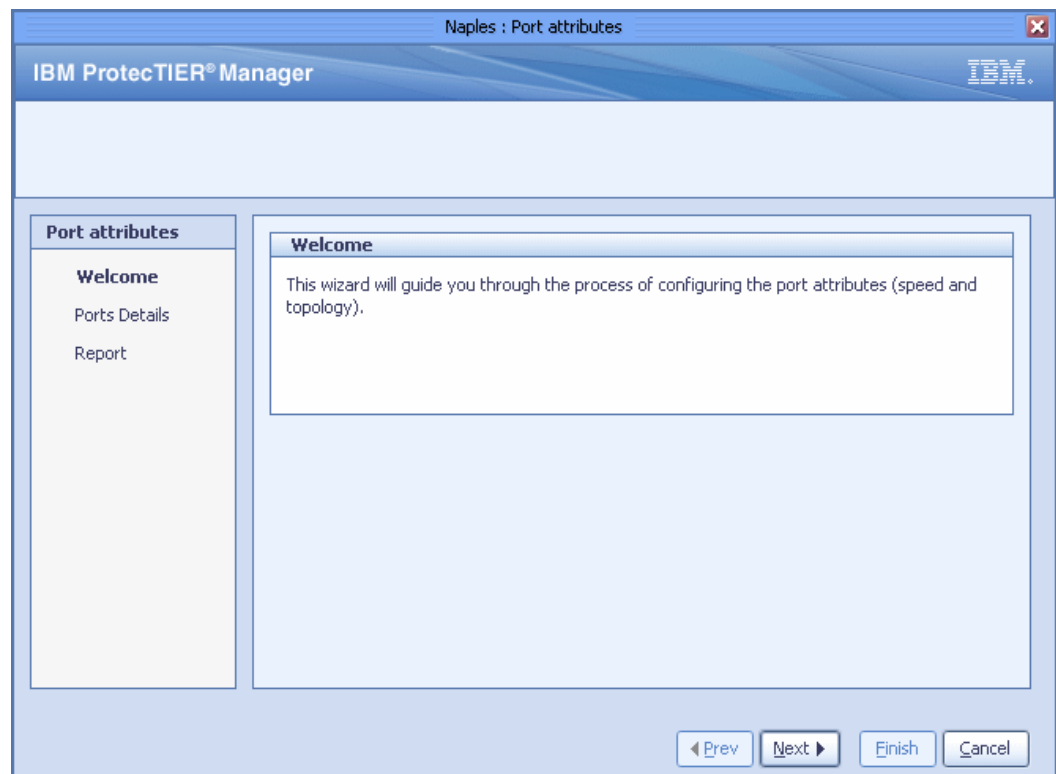

Figure 10-118 Port attributes: Welcome window
2. Select **Nodes** → **Port attributes**. The Port attributes wizard Welcome window opens (Figure 10-118).